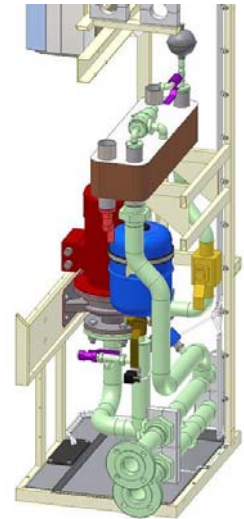

Figure 3.1-8
- Valves V161...V162 open (violet colour in Figure 3.1-8)
- Valve V160 lever down (brown colour in Figure 3.1-8)
- Valve V140 closed (yellow colour in Figure 3.1-8)